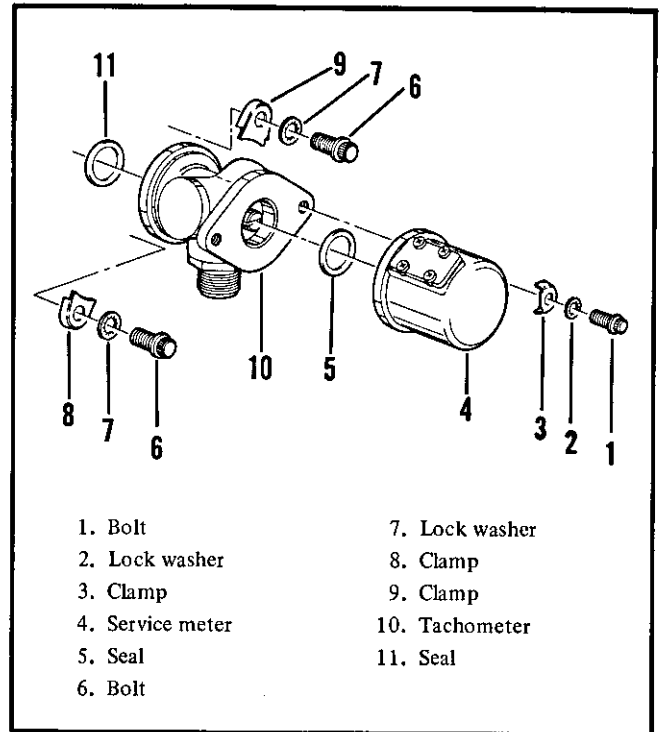

Figure 5-30. Service meter and tachometer drive
5-45. **SERVICE METER AND TACHOMETER DRIVE** (Figure 5-30). Disconnect tachometer drive cable and overspeed switch transmitter from tachometer drive adapter. Unscrew and remove adapter from tachometer drive. To remove service meter (4), remove bolts (1), lock washers (2), and clamps (3). Pull service meter (4) out of tachometer drive (10) and remove seal (5). Remove bolts (6), lock washers (7), clamps (8, 9), and pull tachometer drive (10)